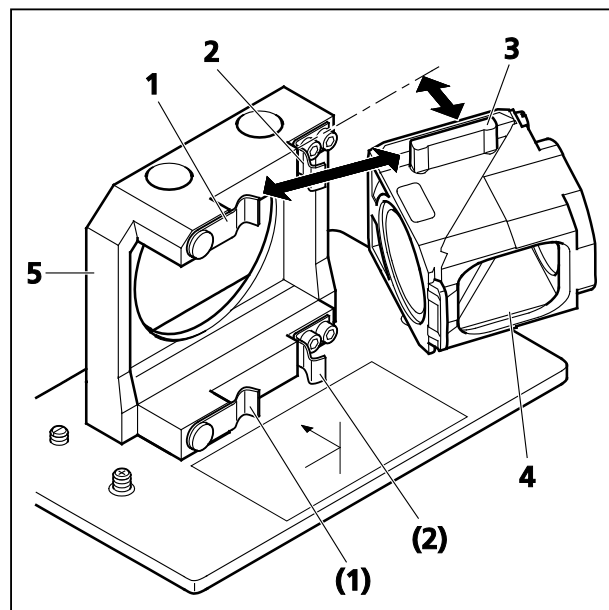

Fig. 19 Changing the filter module
- Disengage the filter module (Fig. 19/4) from the upper spring elements (Fig. 19/2) of the filter insert (Fig. 19/5) by tilting it forward, then lift it off the lower spring elements (Fig. 19/1) and remove the module.
- Insert the filter module (Fig. 19/4) with the aid of its mounting elements on its left and right (Fig. 19/3) into the lower spring clips (Fig. 19/1) on the filter insert.
- Press the filter module against the upper spring clips (Fig. 19/2) until it engages firmly.